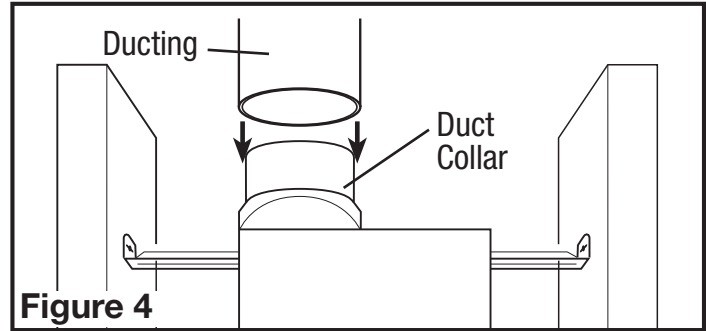

Figure 4
1. Connect the ducting to the fan's duct collar (**Figure 4**). Secure in place using tape or screw clamp. Always duct the fan to the outside through a wall or roof cap. It is recommended that low restriction termination fittings be used.